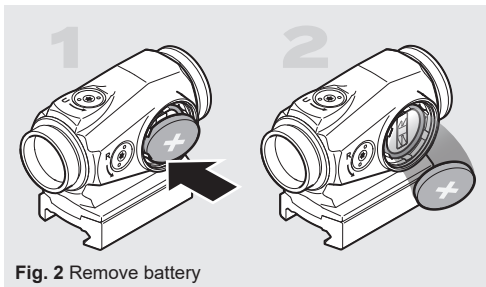

Fig. 2 Remove battery
- a Unscrew and remove the battery cap (4).
- b If replacing battery, remove depleted battery from the battery compartment by carefully pressing down on an edge as shown in Fig 2.